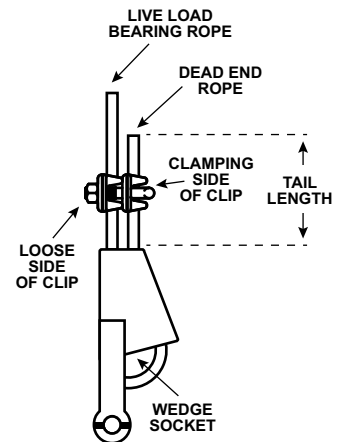

FIGURE 2
- Tighten nuts evenly. Alternate tightening each nut until reaching the required torque specified. See Figure 2.